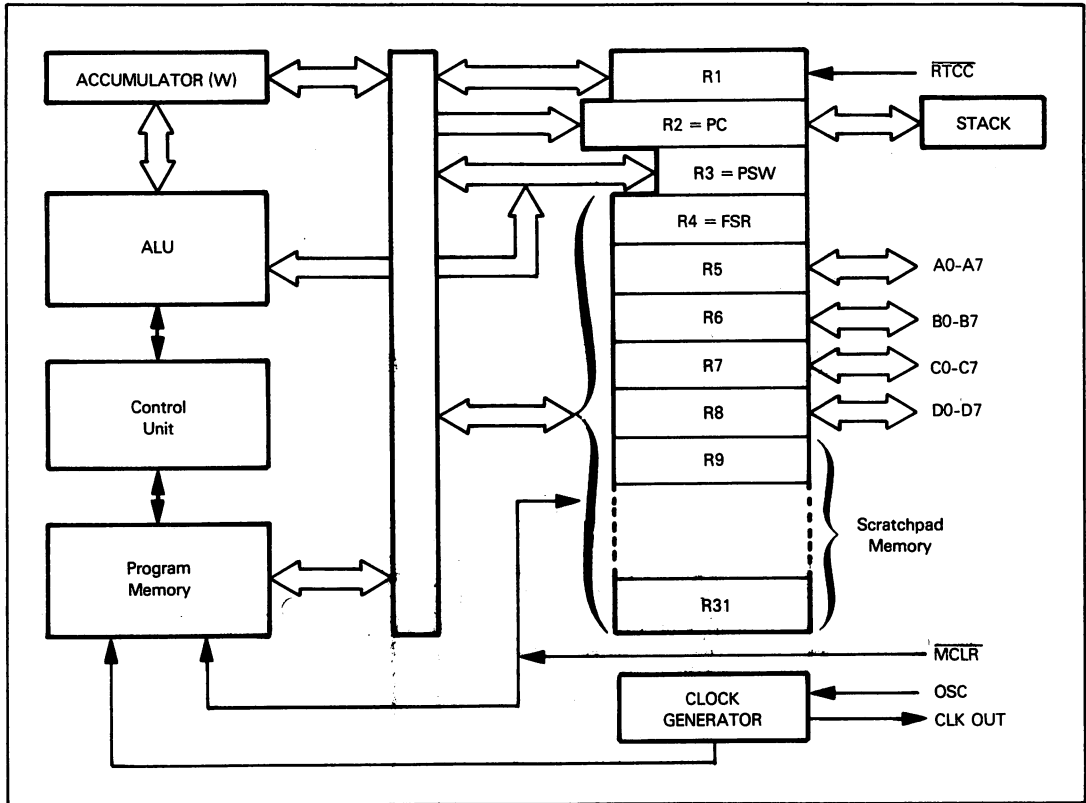

Figure 15-2. 1650 Functional Logic
**Logic of the 1650 series microcomputers is illustrated functionally in Figure 15-2.**
**I/O ports of 1650 series microcomputers are connected directly to 8-bit registers which can also be accessed as general purpose registers.** In Figure 15-2, Registers R5, R6, R7, and R8 are shown connected to four 8-bit bidirectional I/O ports. **I/O variations for other 1650 options are summarized in Table 15-1. Register connections for these other options are defined in Table 15-2.**
All of the 1650 series microcomputers have a single 8-bit Accumulator plus a register file, as illustrated in Figure 15-2.